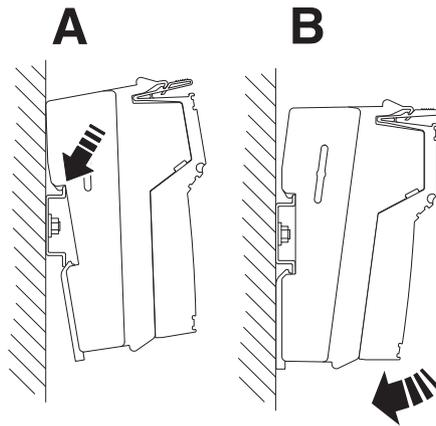
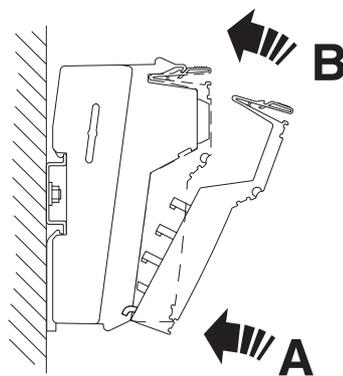

Figure 2-10 Mounting the Inline controller (1)
Figure 2-11 Mounting the Inline controller (2)
Mount the Inline controller horizontally (as shown in Figure 2-10 on page 21). The temperature range specified in Section "Ambient conditions" on page 58 is only guaranteed if the Inline controller is mounted in this position.
When mounting the Inline controller, proceed as shown in Figure 2-10 and Figure 2-11:
- Place the Inline controller onto the rail from above (Figure 2-10, A), then push it onto the rail fully (Figure 2-10, B).
First, insert the front connector catch into the front latching mechanism (Figure 2-11, A). Then push the connector toward the electronic base until it engages in the rear latching mechanism (Figure 2-11, B).